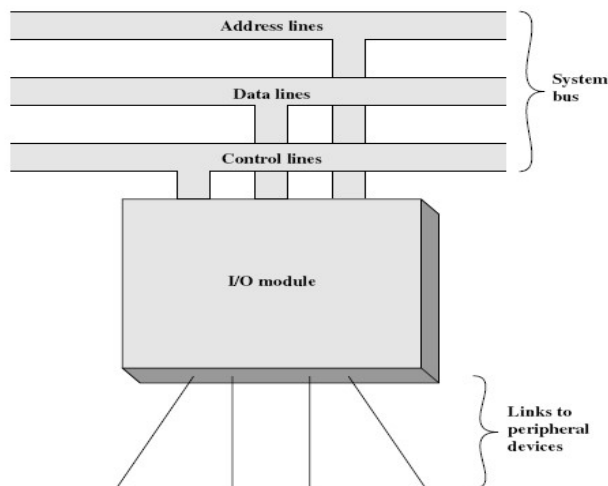

Figure 7.1. Generic Model of an I/O Module
- An external device attaches to the computer by a link to an I/O module Figure 7.1.